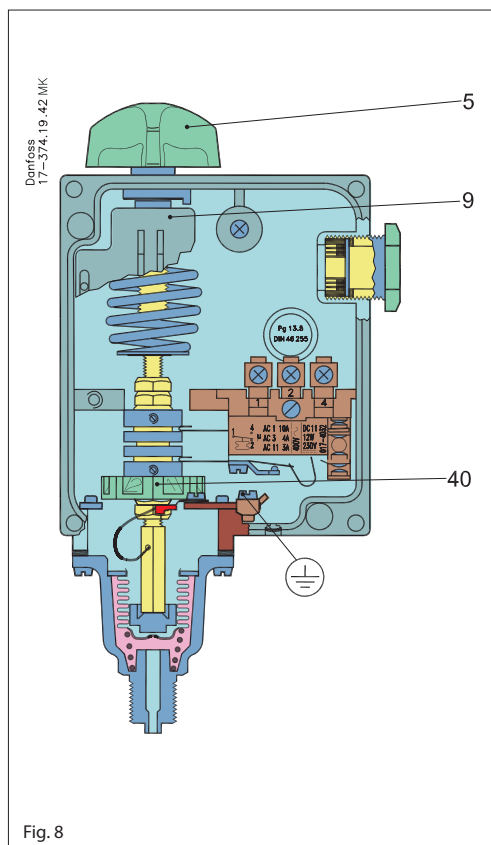
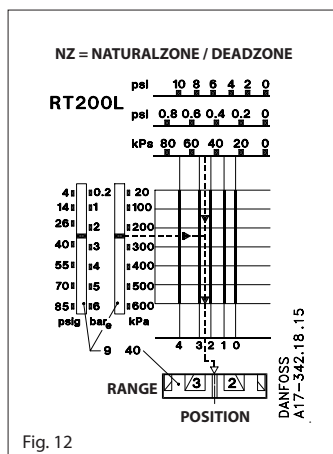
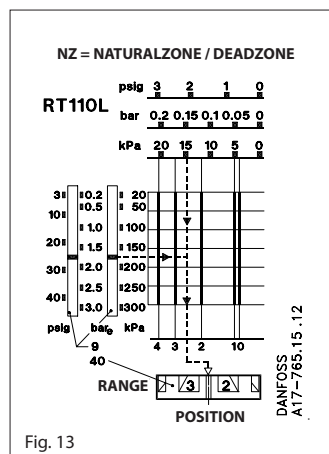

Fig. 8
Fig. 12
Fig. 13
The interval in the controlled variable in which the correcting element does not respond (see fig. 13)
The range is set using the setting knob (5) fig. 8 while reading the range scale (9). The pressure set is the break pressure for contacts 1-4 (see fig. 13).
The required neutral zone can be found in the diagram for the unit concerned. The position at which the neutral zone disc (40) must be set can be read from the lower scale in the diagram. The function can be seen in fig. 13.
The RT 200L must be set using the setting knob (5) fig. 8 page 9 at 3.5 bar (35 m wg) minus the fixed differential of 0.2 bar.
The neutral zone,  $35 - 32 = 3$  m wg, corresponding to 0.3 bar, must be set on the neutral zone disc (40) fig. 8 page 9. According to the diagram fig. 12 the disc setting is 1 or just over. A more accurate setting can be obtained by using the test setup shown in fig. 14.